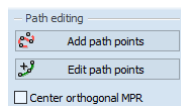

Figure 292 – Path defining tools
The CPR path is represented by a Bezier curve interpolating defined 3D points (key points). The number of key points is unlimited. Any changes performed to the CPR path are immediately reflected by CPR view. TomoCon provides two different modes for defining the CPR path key points (see Figure 292):
When adding a new or editing existing key point, it may be useful to move all orthogonal MPR planes to that key point to make following adjustments easier. To do so, check **Center orthogonal MPR** check box (see Figure 292).
1. Click  **Add path points** button (see Figure 292). The path is displayed in red.
1. Click  **Edit path points** button (see Figure 292). Path is displayed in green.
1. Click  **Edit path points** button (Figure 292). Path is displayed in green.